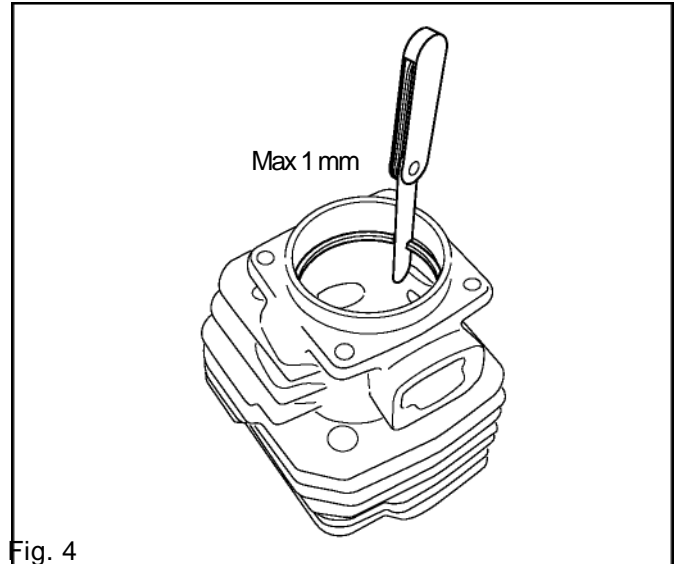

Fig. 4
- B. Thread in the oiled part through the hole in the tank unit. Allow 80-85 mm to protrude on the outside. See fig. 4.
- C. Twist the hose so that it is bent upwards. See fig. 4.
5. Measure piston ring wear by placing it in the bottom of the cylinder bore and measuring the gap. See fig. 4. The piston ring gap should not exceed 1 mm.